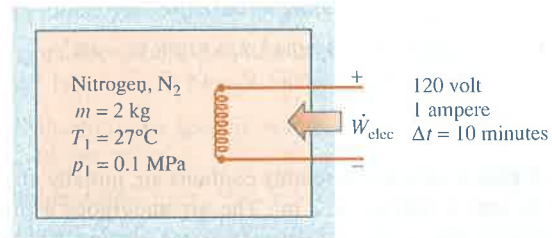

Fig. P3.127
- 3.127** As shown in Fig. P3.127, a well-insulated tank fitted with an electrical resistor of negligible mass holds 2 kg of nitrogen (N_2), initially at 300 K , 1 bar . Over a period of 10 minutes , electricity is provided to the resistor at a constant voltage of 120 volts and with a constant current of 1 ampere . Assuming ideal gas behavior, determine the nitrogen's final temperature, in K , and the final pressure, in bar .